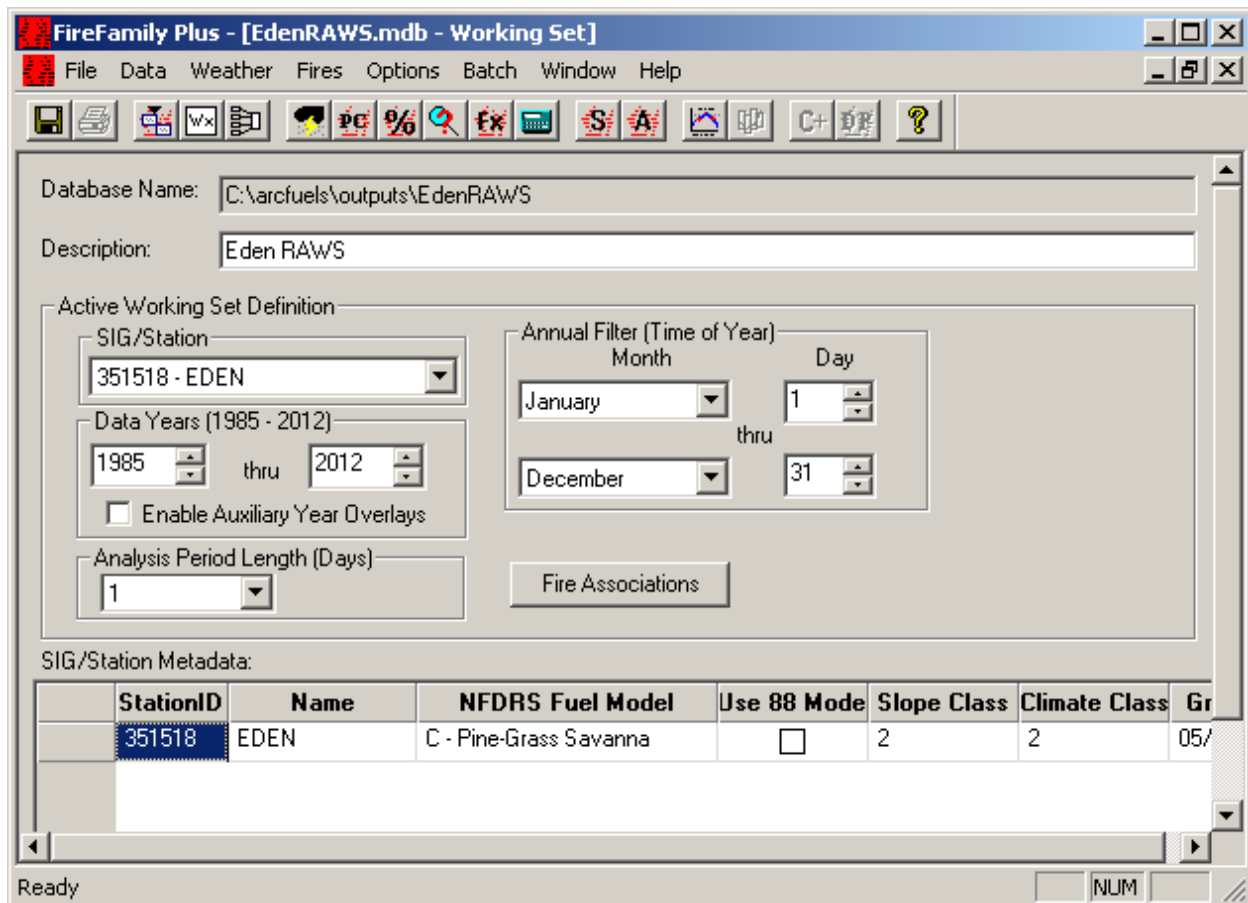

Figure 3-19—Main FFP page with the EDEN RAWS selected.
- a) Under *Active Working Set Definition* and then *SIG/Station* select 351518 – EDEN from the drop-down list (fig. 3-19). This will populate the *Data Years* and *SIG/Station Metadata*.